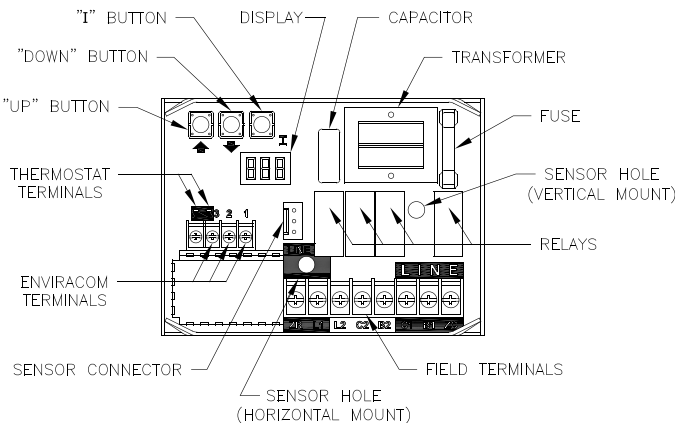

Figure 21: Intelligent Oil Boiler Control (Horizontal Mount Shown)
- b. The boiler's sequence of operation is shown as Status Codes on Boiler Control display. See Table 5 and Figure 21.